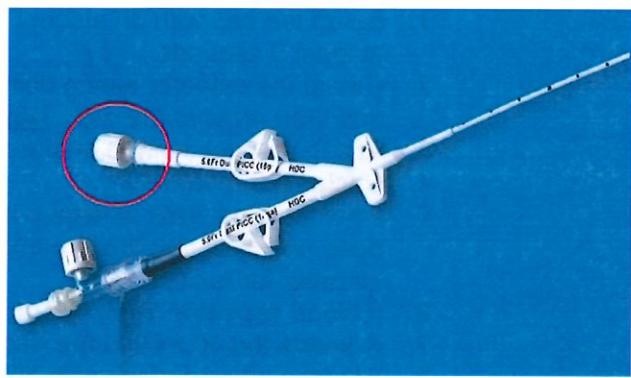

Figure 2 – Non-needleless type port with cap
- C. If there is a capped needle-type port on the distal end of the catheter, perform the following: (*figure 2*)